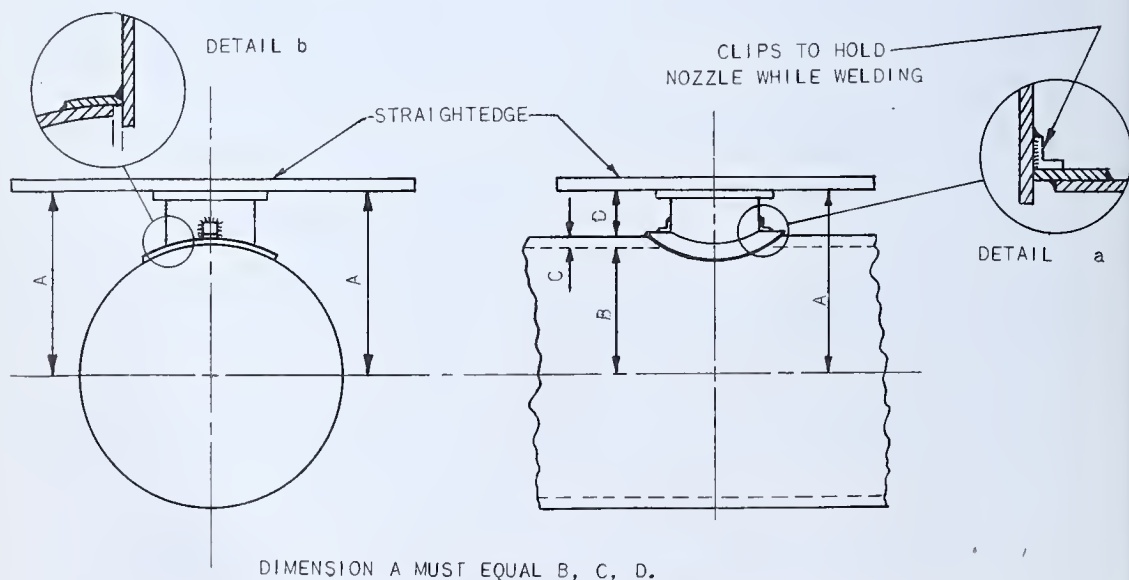
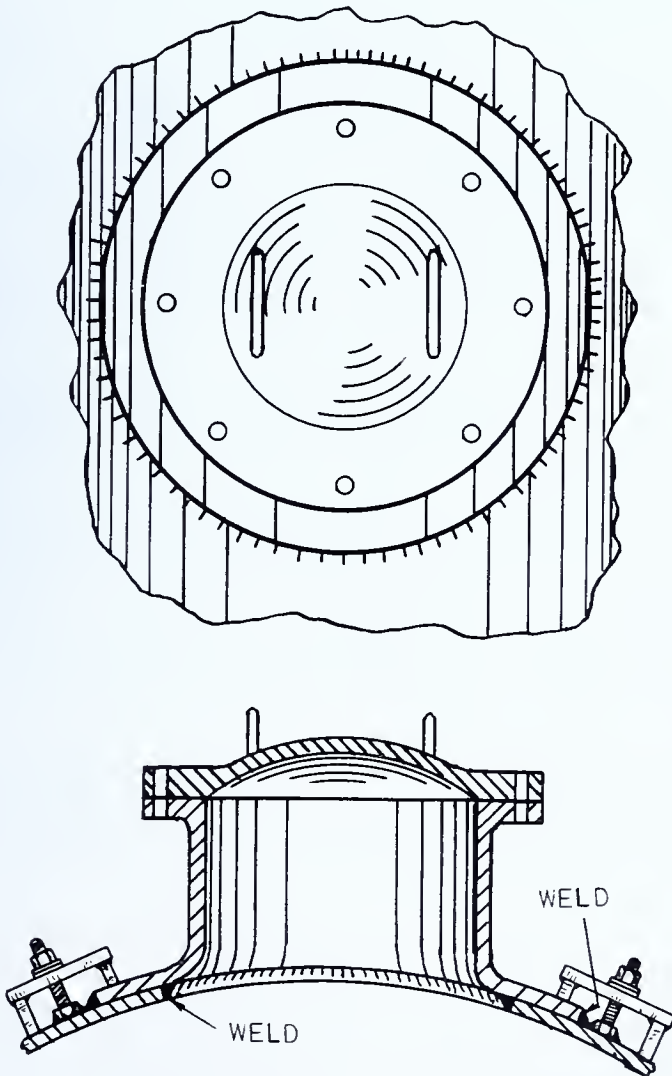
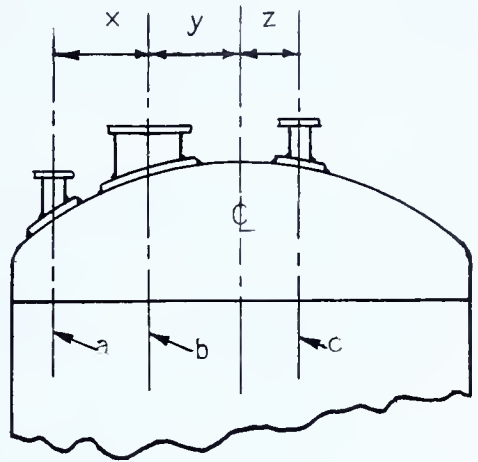

FIG. 390 — *Leveling and Welding the Manhole Nozzle in Place*
FIG. 391 — *Flanged-Neck Manhole Nozzle*
FIG. 393 — *Nozzles on a Dished Head*
The measurement for locating the angle clips is only approximate. The clips are welded on opposite center lines and not too close to the entering end of the nozzle. Care must be taken to have the nozzle extend rather too far into the tank than not far enough. It may be packed (shimmed) up, but it cannot be forced down. Fig. 390 at detail *a*.
The nozzle is then located in the opening as shown in Fig. 390. Measurement *A* is taken from the blueprint. A straightedge is placed across the nozzle flange as shown, and the measurements are checked for accuracy. Shims are placed between the angle clips and the surface of the reinforcement plate to bring the face of the flange to the correct height above the center line of the tank. Small wooden wedges may be driven into the opening between the nozzle wall and the reinforcement plate to hold the flange face level with the side (horizontal) center line.
A flanged-neck manhole nozzle is shown in Fig. 391. There is no reinforcement plate used with this type nozzle, and the neck does not project inside the tank. The curved flange on the nozzle is centered and clamped to the shell curve. Use clamps in the same manner as shown in Fig. 371, Job Sheet No. 13.
Level the nozzle-neck flange in the same manner as was described in Fig. 390. Use shims under the flange, if necessary, to adjust it to the correct alignment. When it is correctly aligned, have it tack welded all around. The job is now ready for the welders to finish. Figure 391 shows the location of the welds inside and outside of the shell.
Nozzles are installed on dished heads of certain jobs. The nozzles are located, leveled, and welded as shown in Fig. 390. When checking the correct height of the nozzle flange from the side of the shell, always measure on the center lines marked *a*, *b*, and *c* in Fig. 393. The distances from the center line of the shell should be measured as shown at *x*, *y*, and *z*.
6. Place straightedge across nozzle-neck flange, and level the flange longitudinally according to dimensions given on blueprint (as shown in Fig. 390).